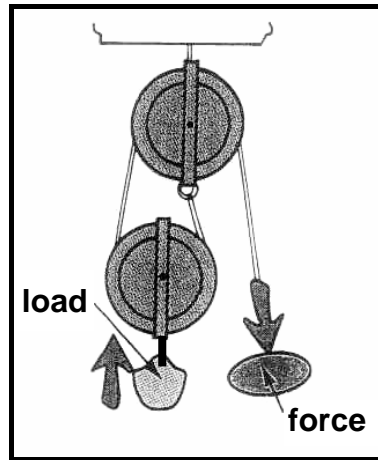

FIGURE 1.6
1.16 The pulley system shown in FIGURE 1.6 below is ...